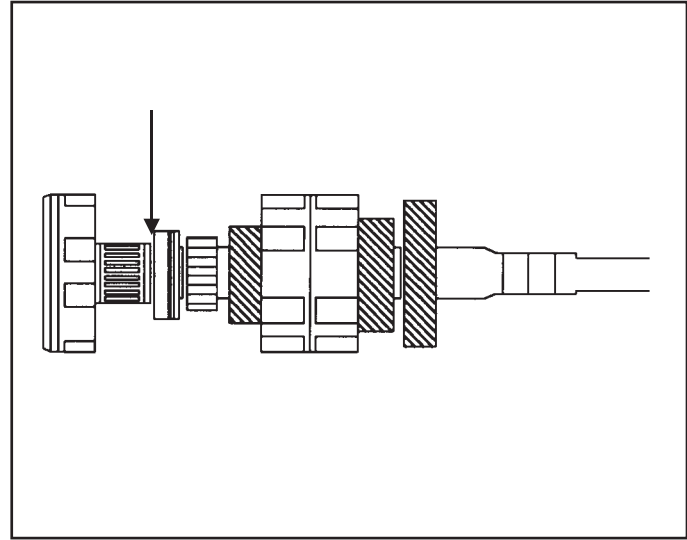

Figure 131
23. Using a feeler gauge, check the clearance between the 1st drive gear and case bearing (See Figure 131). The clearance should be: